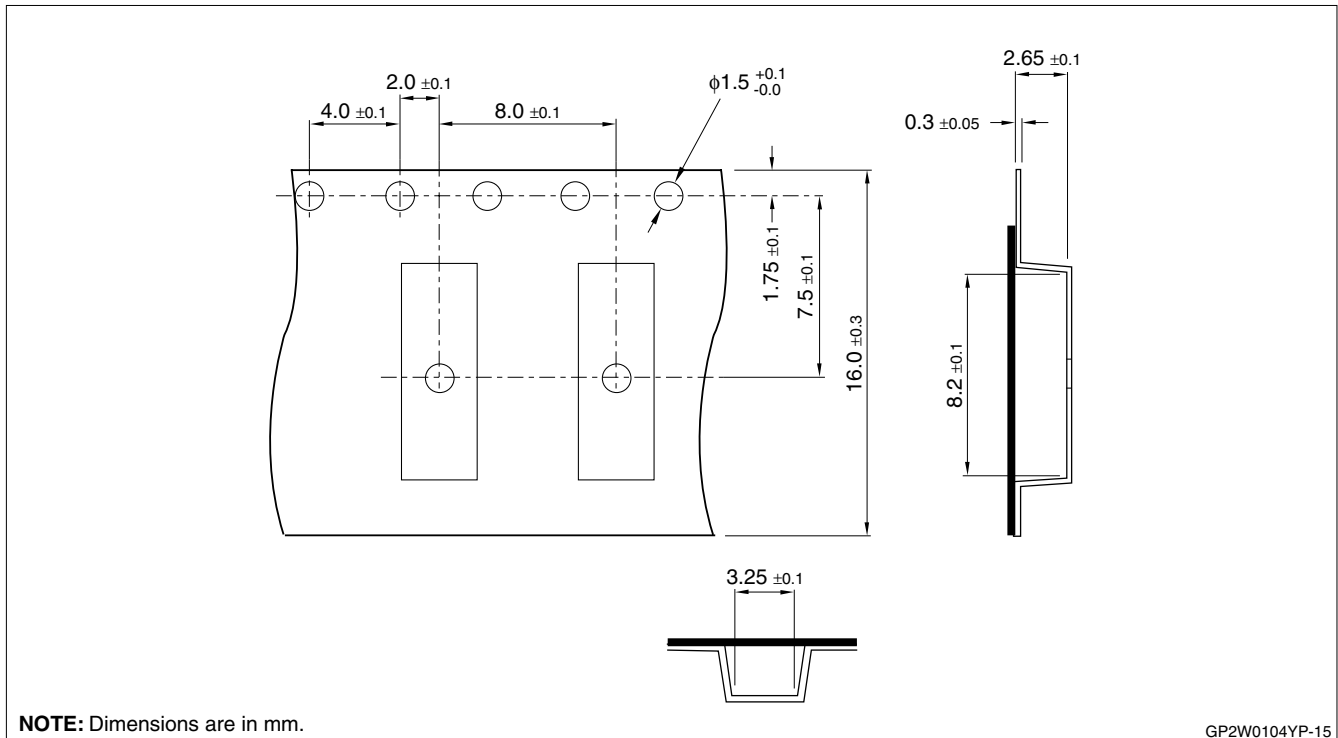

Figure 15. Tape Structure and Dimensions
- Taping structure and dimensions: The tape should have a structure in which a cover tape is sealed heat-pressed on the carrier tape of conductive PET. See Figure 15.